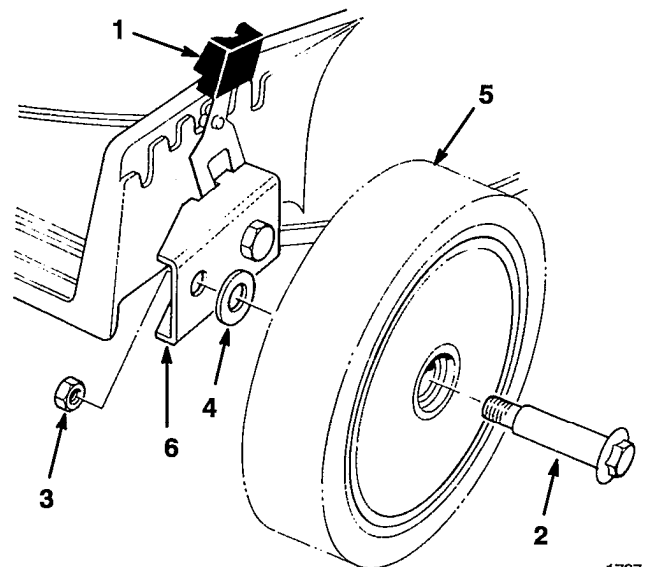

Figure 1
1. Place a wood block under front of housing to raise wheels for removal (Fig. 1).
2. Move spring arm to highest height-of-cut setting (Fig. 1).
3. Remove wheel bolt washer and nut securing wheel to pivot arm (Fig. 1).